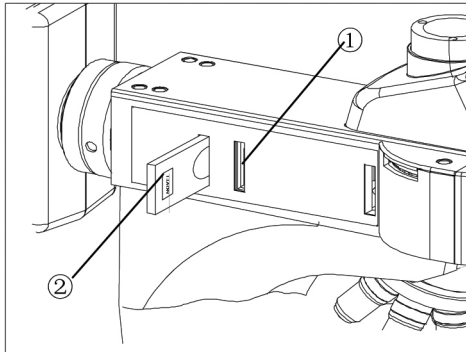

Fig. 4
Mounting the ND (Neutral Density) Filter (Fig. 4)
There are two kinds of ND filters available: ND6 and ND25 for position ① and ② respectively (Fig. 4). To prevent the ND filter from being damaged, insert the filter with the indication surface facing the observation side.